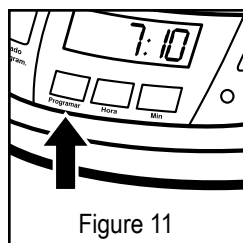

Figure 11
5. Press the DELAY BREW button to activate the DELAY BREW mode. See Figure 11.